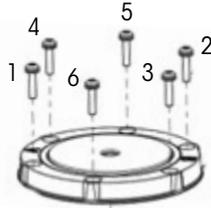

Figure 12: *Torque sequence*
9. **Torque** all six torx screws to 45 in-lbs in sequence shown in Figure 12.